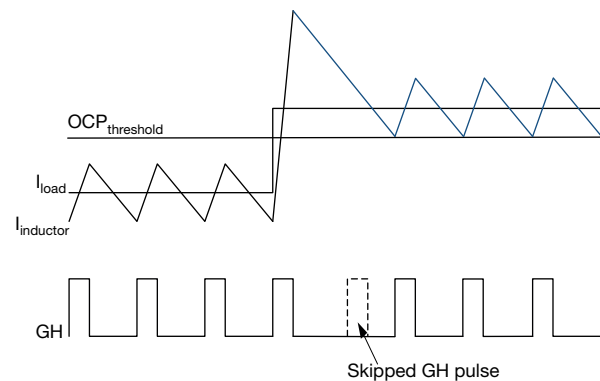

Fig. 7 - Over-Current Protection Illustration
SiC454 has pulse-by-pulse overcurrent (OC) limit control. The inductor valley current is monitored during low-side (LS) FET turn-on period through R_{DS(on)} sensing. After a pre-defined blanking time, the valley current is compared with an internal OCP threshold named I_{OUT_OC_FAULT_LIMIT}, which can be programmed via PMBus. Once monitored valley current is larger than I_{OUT_OC_FAULT_LIMIT}, a pulse-by-pulse over-current limit is broken, high-side (HS) turn-on pulse is skipped and LS FET is kept on until the inductor valley current returns below OCP limit as illustrated by Fig. 7.